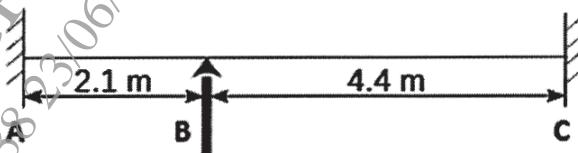

Fig. 2
- Q4)** Design the beam A-B-C shown in Fig. 2. The load on the beam may be considered as 12 kN/m. Design the beam using M-20 grade concrete and Fe-500 grade of steel. Sketch the details of reinforcement. [18]